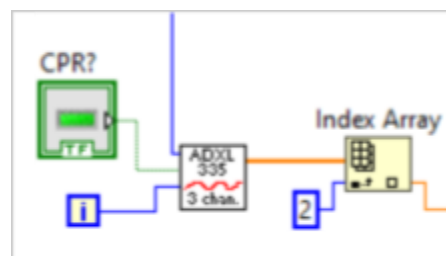

Figure 1. Extracting Z signal from simulator subVI.
3. From now on, you only need to work with the Z signal. Extract the Z signal using “Index Array” (Figure 1).